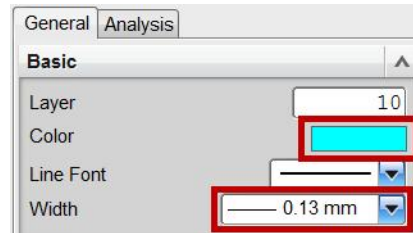

Figure 2–13
14. Change the color to **Cyan** and width to **0.13 mm** as shown in Figure 2–13.